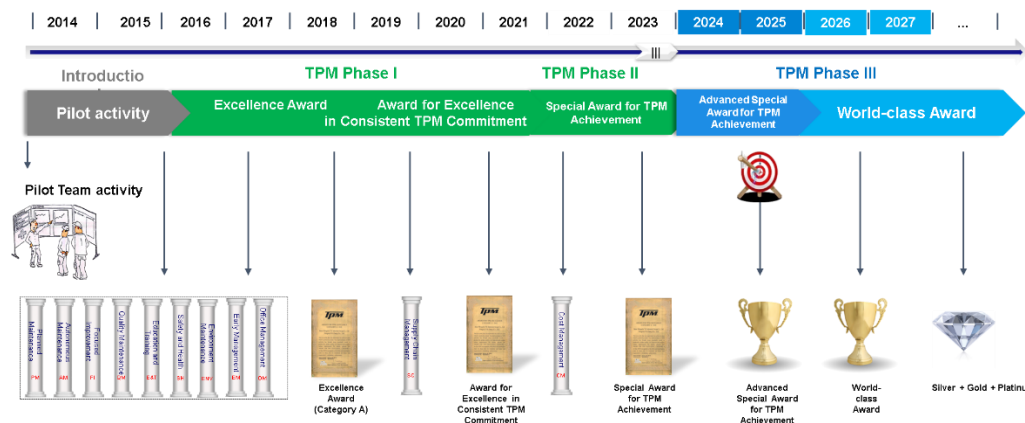

Fig.2.1 Background of TPM Introduction
Our vision is to create a world-class healthy food factory. We believe TPM activity can help us sharpen our competitive edge and improve skills and performance. In 2014, we introduced TPM philosophy and improvement tools, and started improvement team activities for laying foundation for TPM introduction. In 2015, we officially kicked off TPM activity and set up PM, AM, FI, QM, TD, SH, ENV, EM, and OM pillars. In 2018, we successfully won TPM Excellence Award (Category A). In 2019, we set up the SC (Supply Chain) pillar and expanded improvement activities to raw milk supply and product delivery areas. In 2021, we won the Award for Excellence in Consistent TPM Commitment. In 2022, we set up the Cost Management (CM) pillar. We won the Special Award for TPM Achievement in 2023, and plan to challenge the Advanced Special Award for TPM Achievement in 2025 as well as other TPM awards in the future. (Fig.2.1)